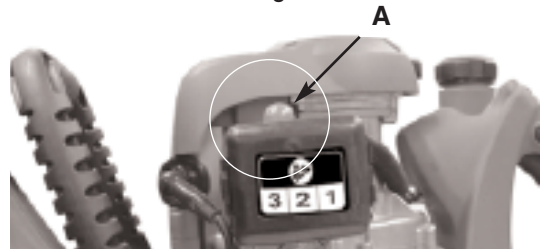

Fig. 3
3. Prime the carburetor. Pump the primer bulb (A) 10 times (Figure 3).